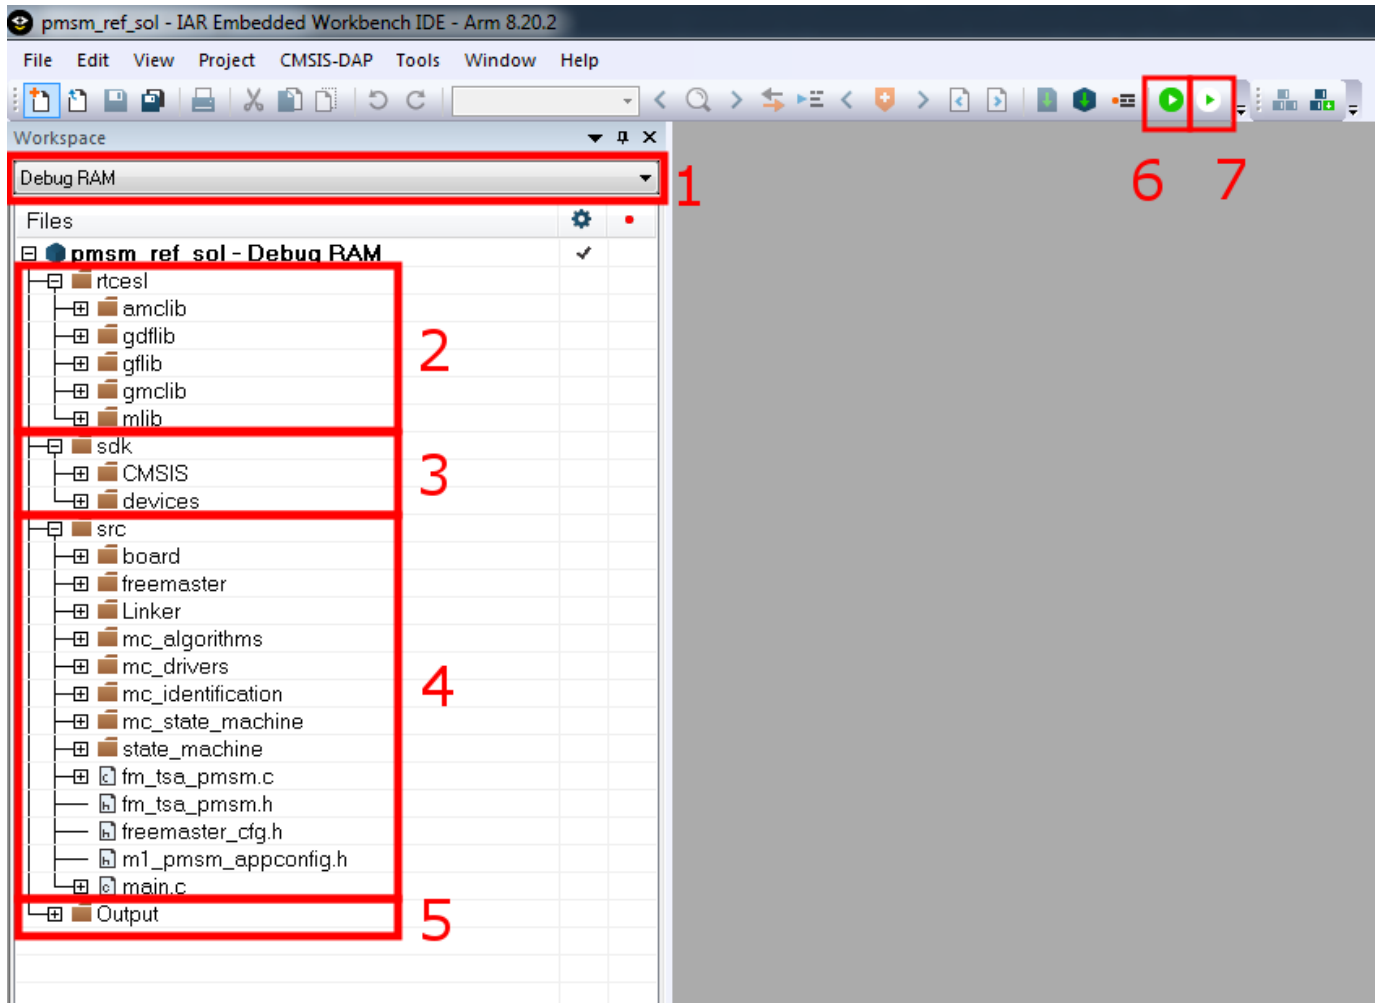

Figure 5. IAR IDE workspace
- Point 1 in Figure 5 shows the current build configuration. You can choose between the Debug RAM and Release FLASH configurations. Each of the two conditions has its own settings (described below).
1. Select the “Debug RAM” build configuration (Point 1 in Figure 5).
4. After a successful build, the application is ready to be downloaded to the RAM. To perform this action, just press “CTRL+D” or click the “Download and Debug” button (Point 6 in Figure 5).
1. Select the “Release FLASH” build configuration (Point 1 in Figure 5).
5. After the compiled project is flashed, just press CTRL+Q or click the “Debug without downloading” button (Point 7 in Figure 5).